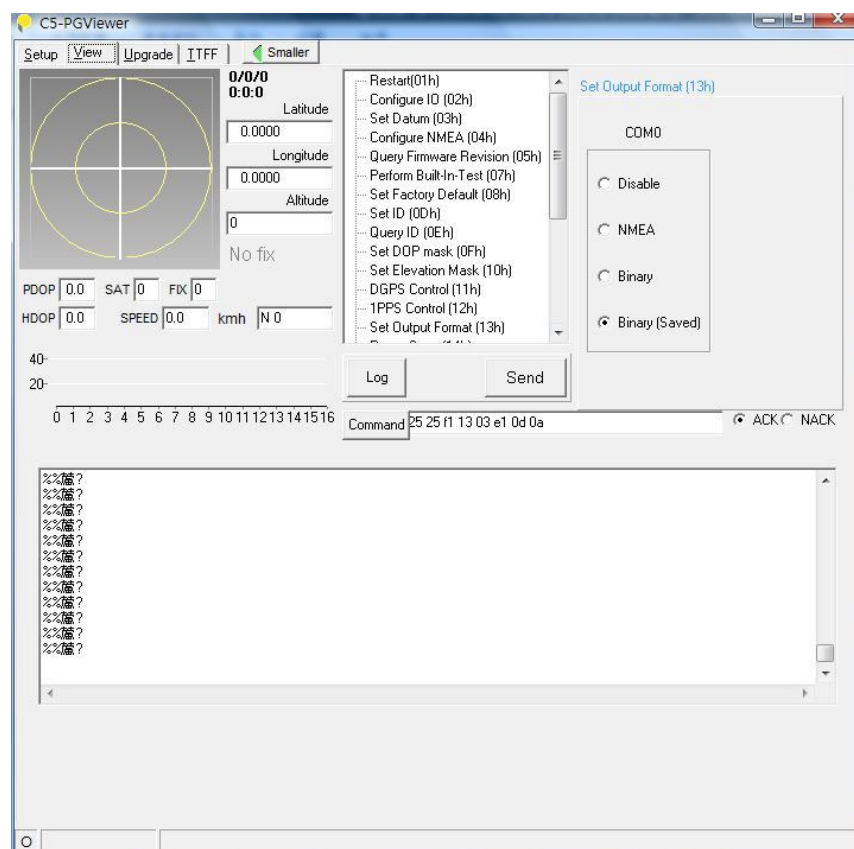

Fig. 12
8. Click on the mark “Larger” to the right of the Trace tab. The GPViewer window will expand to a full function window as shown in Fig. 12.